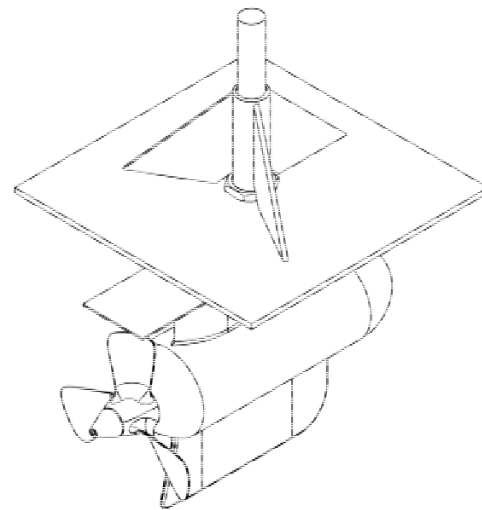
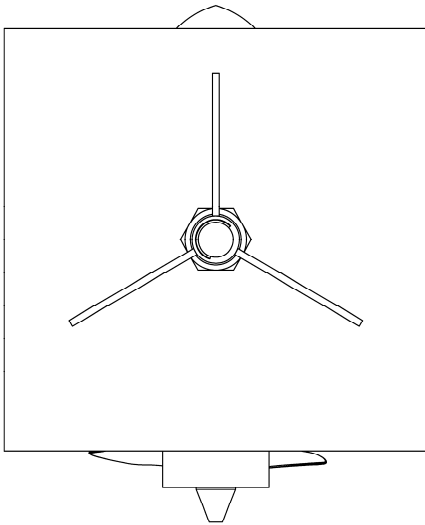

Figure 6: Reinforced housing – Overview with part of the boat hull
Figure 7: Reinforced housing – top view with part of the boat hull
5. Fix the rudder trunk using a reinforced housing in the hull (similar to when placing a conventional rudder). This housing needs to ensure that forces/torques on the rudder trunk are well absorbed by the hull. An example of a construction that could be used is given in Figure 6 and Figure 7.